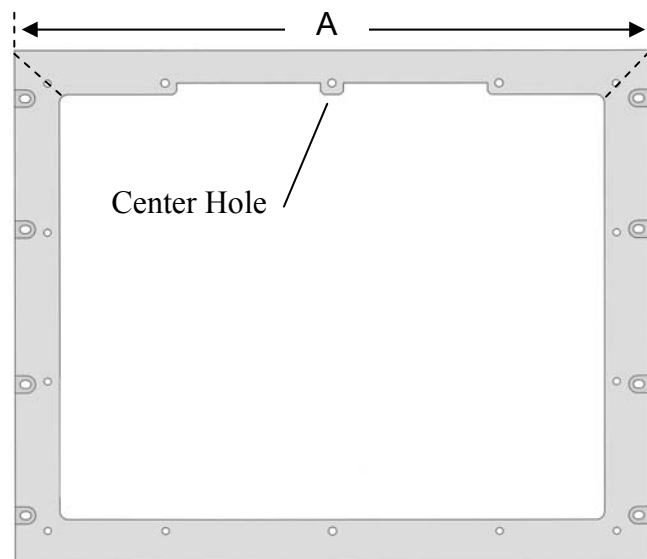

Figure 2: Gasket Installation
1. On a flat surface, orientate the mounting plate as depicted in Figure 2